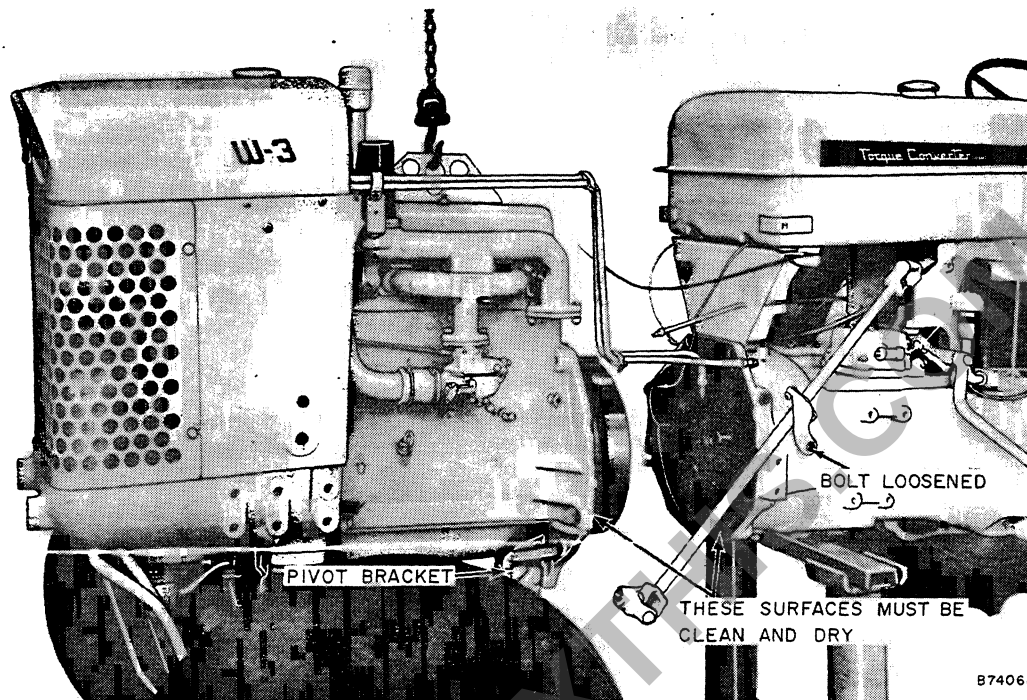

Figure 53 - Connecting Torque Tube to Engine
3. With engine block approximately one inch from torque tube, align groove in universal joint with Woodruff key in steering shaft and start universal over shaft, Figure 53.
it may be necessary to loosen the engine to get pivot bracket into place, Figure 53.